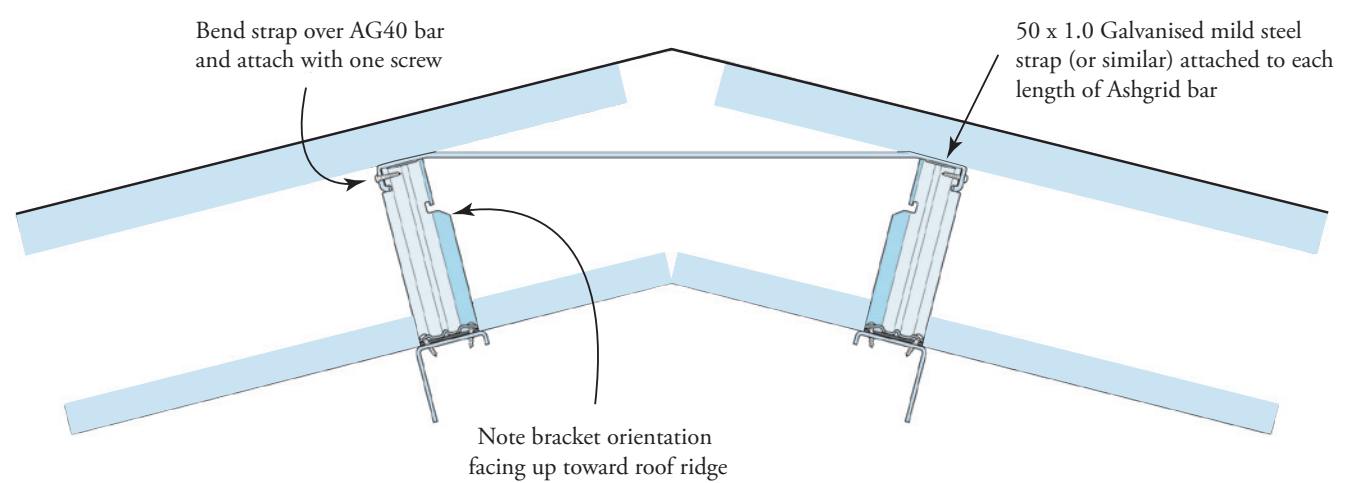

Figure 2. Design Considerations
- The Ashgrid brackets must always be orientated with the shorter edge facing the roof ridge (refer to figure 2 above)